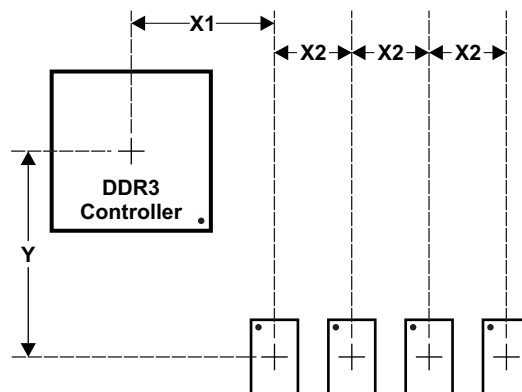

Figure 8-15. Placement Specifications
Figure 8-15 shows the required placement for the processor as well as the DDR3 devices. The dimensions for this figure are defined in Table 8-19. The placement does not restrict the side of the PCB on which the devices are mounted. The ultimate purpose of the placement is to limit the maximum trace lengths and allow for proper routing space. For a 16-bit DDR memory system, the high-word DDR3 device(s) are omitted from the placement.
- (1) For dimension definitions, see Figure 8-15.
- (2) Measurements from center of processor to center of DDR3 device.
- (3) Minimizing X1 and Y improves timing margins.
- (4) w is defined as the signal trace width.
- (5) Non-DDR3 signals allowed within DDR3 keepout region provided they are separated from DDR3 routing layers by a ground plane.
- (6) Note that DDR3 signals from one DDR3 controller are considered *non-DDR3* to the other controller. In other words, keep the two DDR3 interfaces separated by this specification.